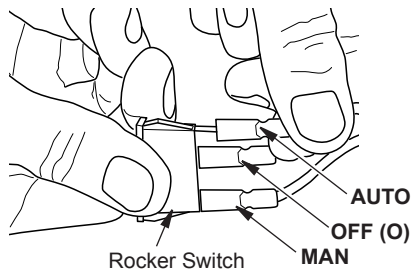

Figure 34 - Connecting Wires to Rocker Switch
18. Connect the AUTO, OFF, MAN wires to the three corresponding male tabs on the rocker switch (see Figure 34).